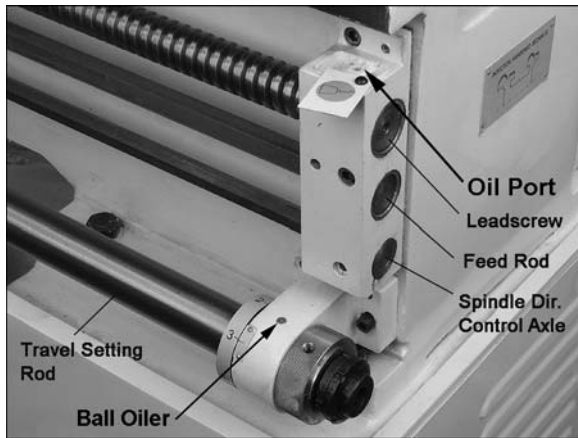

Figure 15 – Lubrication points
13. **Leadscrew, Feed Rod, and Direction Control Axle** – Slide the cover on the right side bracket (Figure 15) to expose the oil port and fill with SAE 20W oil daily. The oil is distributed to all three elements by a woolen line.